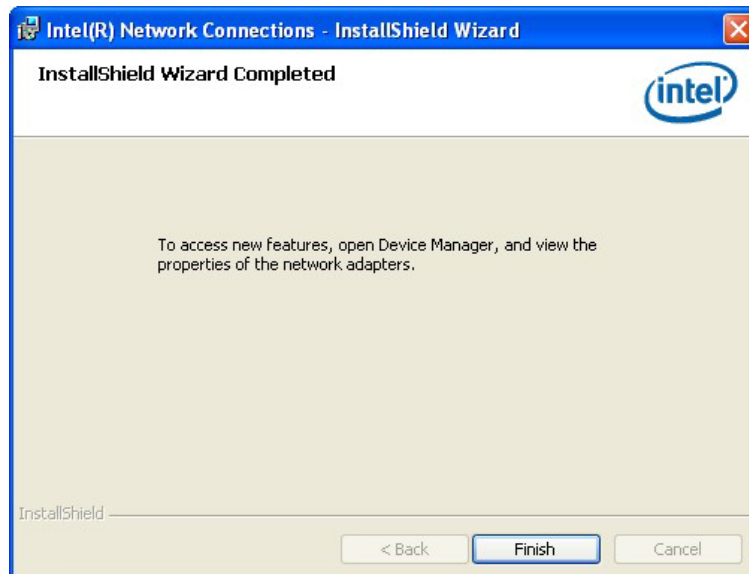

Figure 6-20: LAN Driver Installation Complete
Step 17: When the driver installation is complete, the screen in **Figure 6-20** appears.